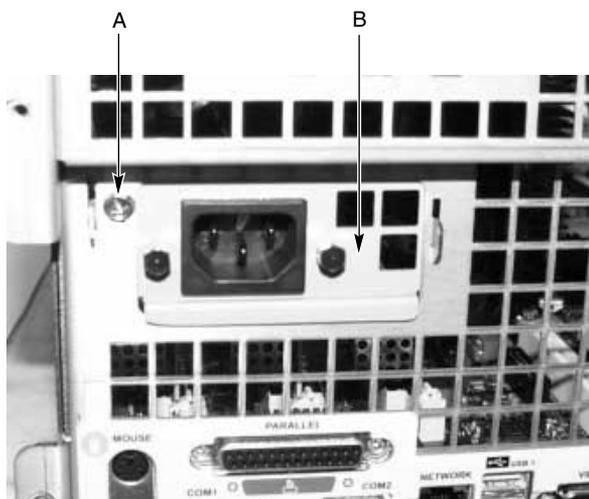

Figure 2-2 Power Supply AC Bracket
- a. Release the screw securing the connector. The screw is noted by “A” in Figure 2-2.
14. Follow these instructions to install the power supply AC bracket. See Figure 2-2 on page 29.
- c. Attach the screw securing the bracket, as shown in Figure 2-2 on page 29.